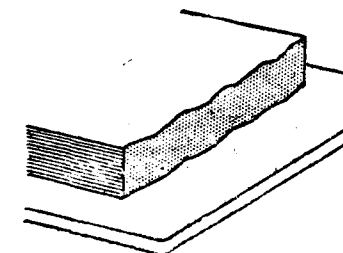

FIG. 13
(1) A *wavy cutting face* (FIG. 13) is the result of cutting hard papers and cardboard with a knife which has too fine a bevel. It can be remedied by re-grinding the knife to 22° bevel. In many cases it will be satisfactory to hone the bevel to 22°.